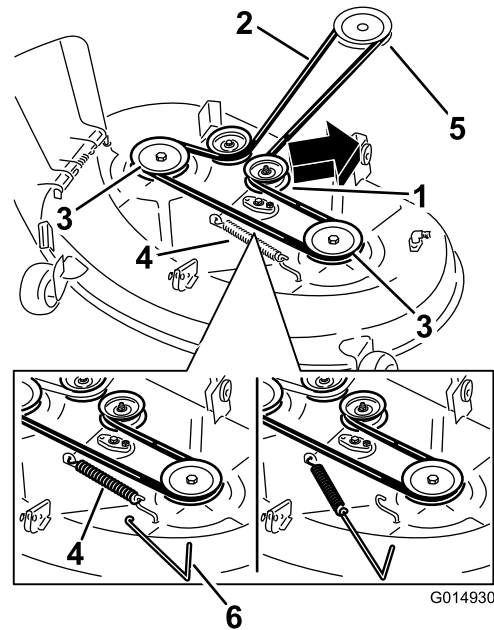
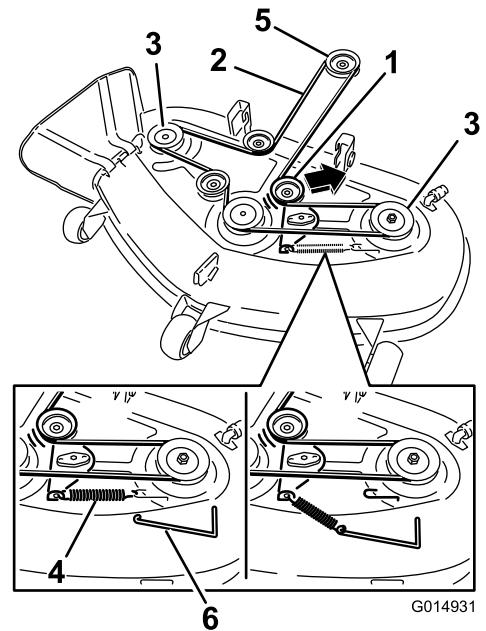

Figure 54
Figure 55
5. Using a spring-removal tool, (Toro Part No. 92-5771), remove the idler spring from the deck hook to remove tension on the idler pulley, and roll the belt off the pulleys (Figure 54 and Figure 55).
6. Route the new belt around the engine pulley and mower pulleys (Figure 55).
7. Using a spring-removal tool, install the idler spring over the deck hook, and place tension on the idler pulley and mower belt (Figure 54 and Figure 55).